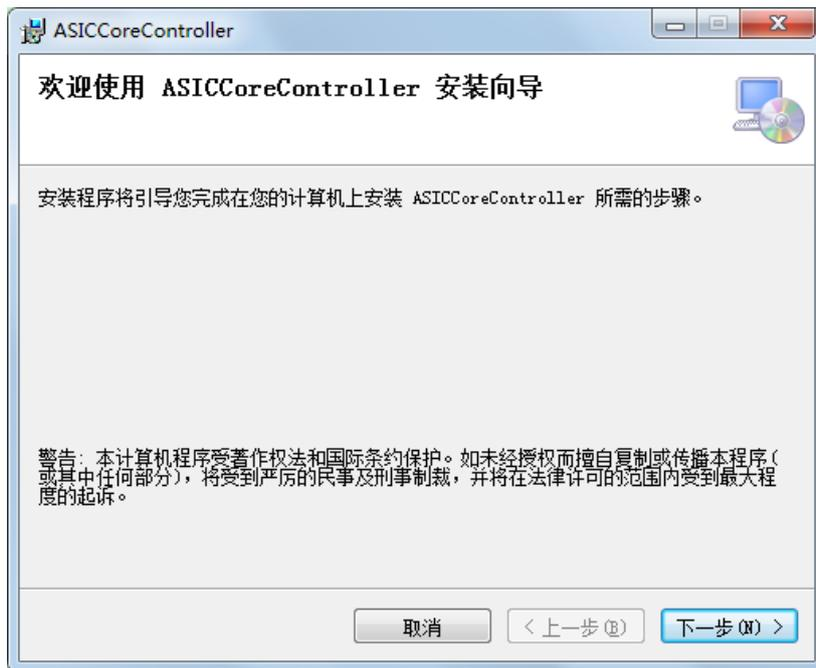

Figure 4-1 Software installation interface 1
1. Firstly, double-click the application installation file  for installation to pop up an installation window, click the button "Next" for installation at the next step, as shown in Figure 4-1.